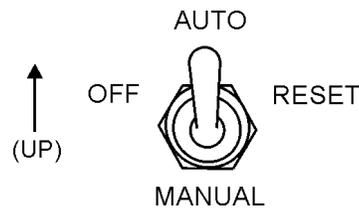

Figure 62. Off/Manual/Auto Switch (Manual)
2. Place the Off/Manual/Auto switch (Figure 62) in the **AUTO** position (up). Observe that the engine begins to crank.